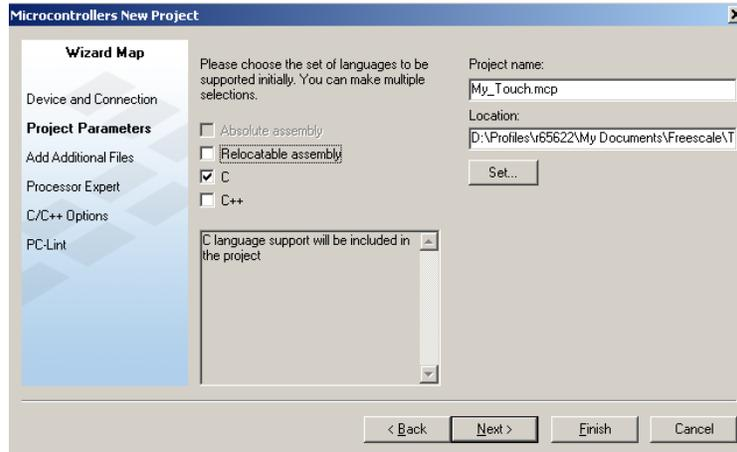

Figure 7. Microcontrollers New Project window—language support
- Next, Figure 7. Make certain that the language support is C as shown. Click **Finish** when you are ready. This starts the project build process.